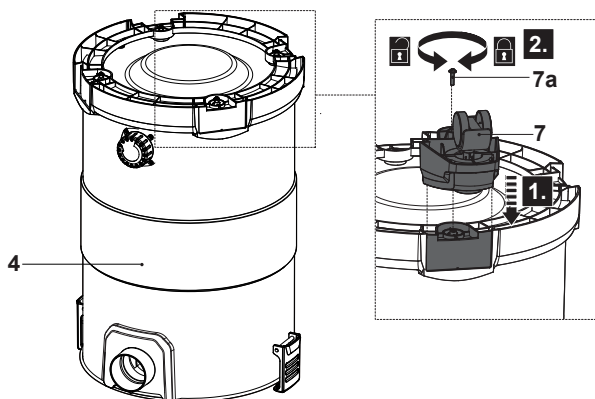

Fig. 2
- > Place the tank (4) upside down on a flat, stable surface.
- > Align and slide the castors (7) onto the wheel supports. Secure the connection with the screws (7a), using a suitable crosshead screwdriver (Fig. 2).